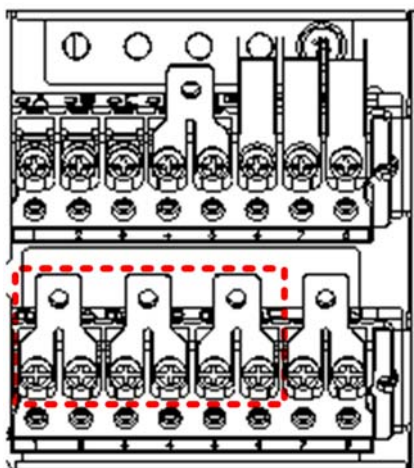

Figure 8-12 3-in 1-out, split bypass configuration (1)
- a) Remove the three copper shorting bars from the rectifier input terminals mA, mB and mC, see Figure 8-12.